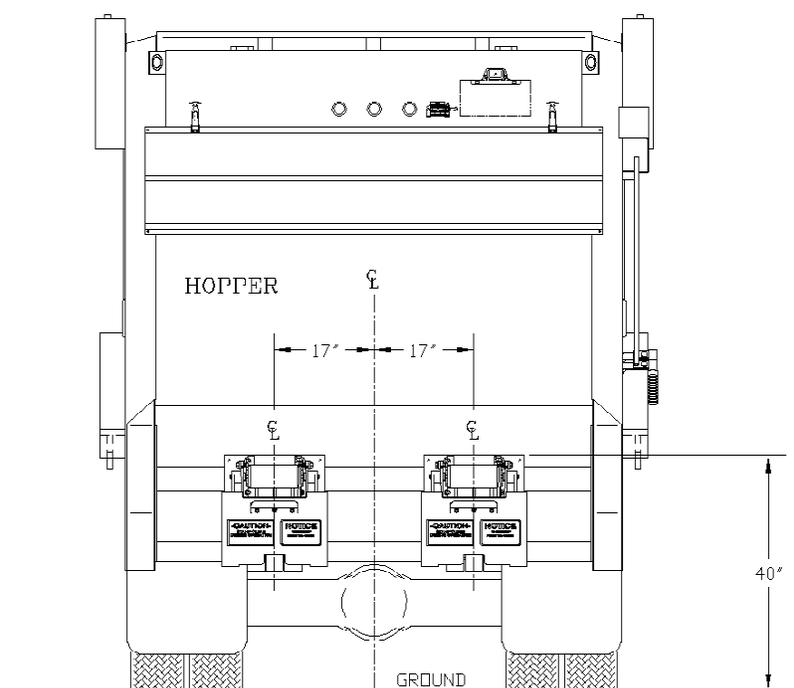

figure I-1
3. Position the lifter(s) on the sill of the truck per *figure I-1* and mounting height drawing (*Appendix A*) and tack weld in place. If using a mounting plate kit for bolt on applications, tack weld the mounting plate in place and attach the lifter to the mounting plate using the 1/2" studs. (*tack weld only at this time so that adjustments can be made if necessary.*).